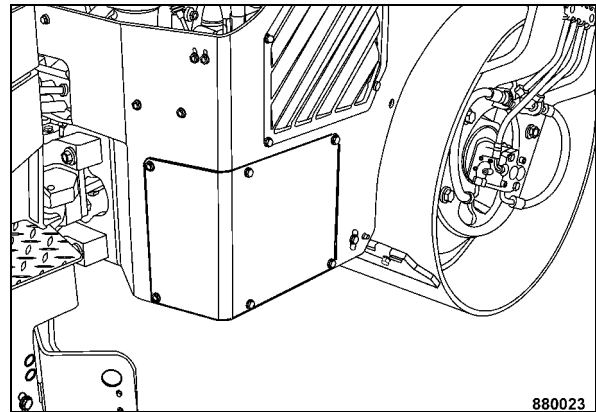

Fig. 6
- Remove the cover from the battery compartment (Fig. 6).